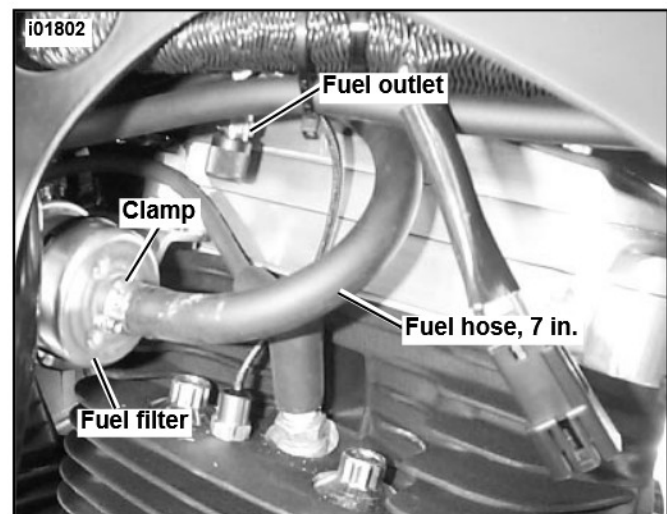

Figure 5. Fuel Tank to Filter
- See Figure 5. Cut a piece of bulk fuel line (Part No. 63521-95) to 7 in. Attach the line to the fuel tank fuel outlet fitting with a hose clamp and tighten clamp.
- Slide a hose clamp onto the 7 in. hose, attach the hose to the filter's inlet fitting and tighten clamp. Route hose as shown in Figure 5.
16. See Figure 5. Cut a piece of bulk fuel line (Part No. 63521-95) to 7 in. Attach the line to the fuel tank fuel outlet fitting with a hose clamp and tighten clamp.
17. Prop fuel tank against frame. Slide a hose clamp onto the 7 in. hose, attach the hose to the filter's inlet fitting and tighten clamp. Route hose as shown in Figure 5.